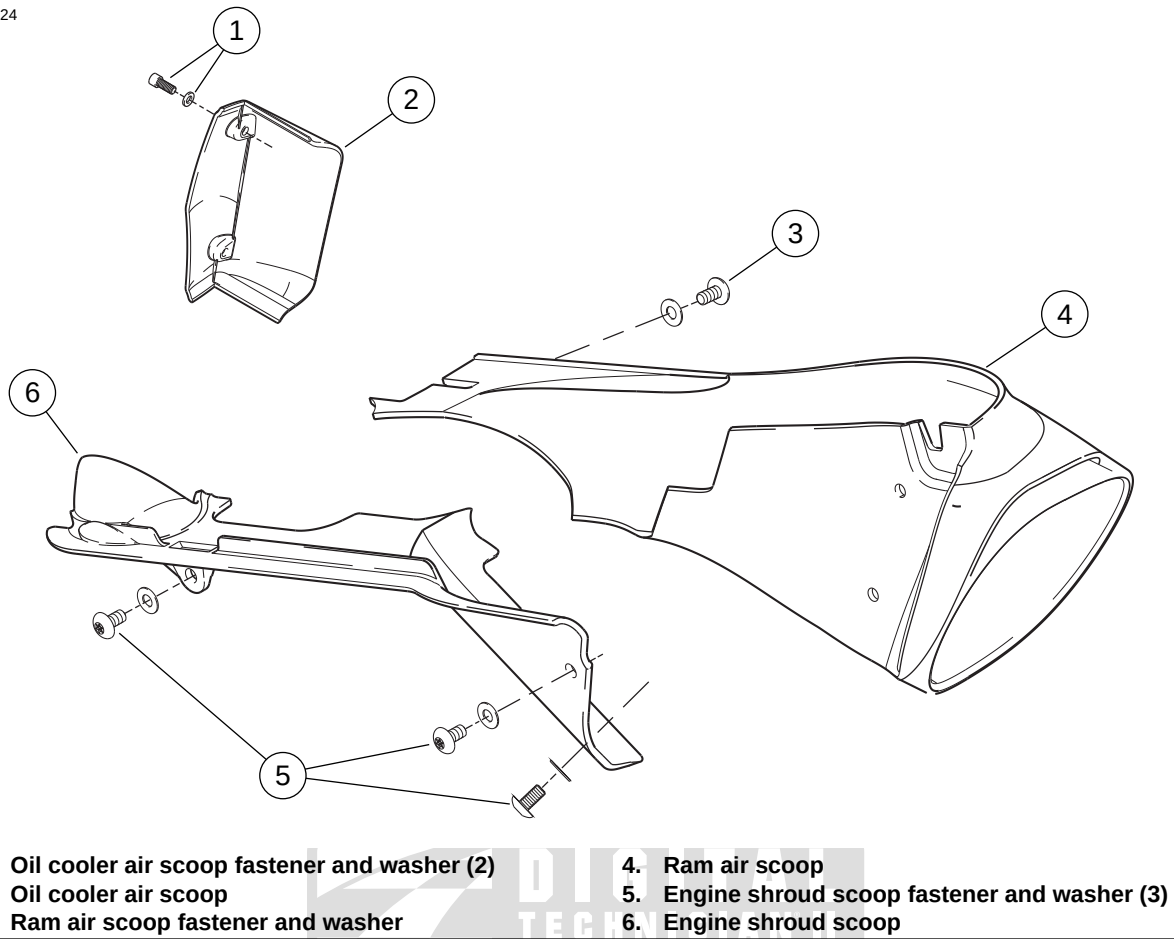

Figure 2-188. Ram Air Scoop, Engine Shroud, and Oil Cooler
1. See Figure 2-188. On left side of bike, locate ram air scoop (4).
2. Remove three ram air scoop fasteners (3).
3. Remove ram air scoop (4).
1. See Figure 2-188. Position ram air scoop (4).
2. Install ram air scoop (4) with three fasteners (3). Tighten to 12-36 **in-lbs** (1-4 Nm).
1. See Figure 2-188. On right side of bike, locate engine shroud air scoop (6).
2. Remove three engine shroud air scoop fasteners (5).
3. Remove engine shroud air scoop (6).
1. See Figure 2-188. Position engine shroud air scoop (6).
2. Install engine shroud air scoop (6) with three fasteners (5). Tighten to 12-36 **in-lbs** (1-4 Nm).
1. See Figure 2-188. On left side of bike, locate oil cooler air scoop (2).
2. Remove two oil cooler air scoop fasteners (1).
3. Remove oil cooler air scoop (2).
1. See Figure 2-188. Position oil cooler air scoop (2).
2. Apply LOCTITE 271 (red) to oil cooler air scoop fasteners (1) and tighten to 48-72 **in-lbs** (5.4-8 Nm).